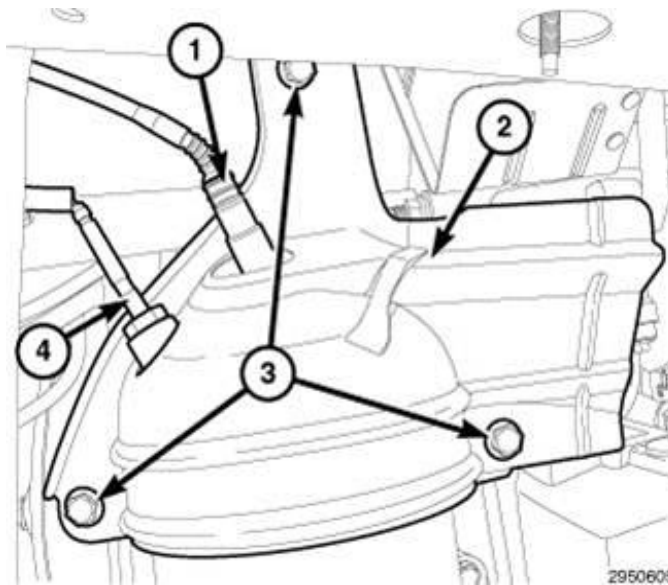

Fig. 1 Exhaust
8. Remove the O2 sensor and temperature sensors from the catalytic converter assembly (Fig. 1).